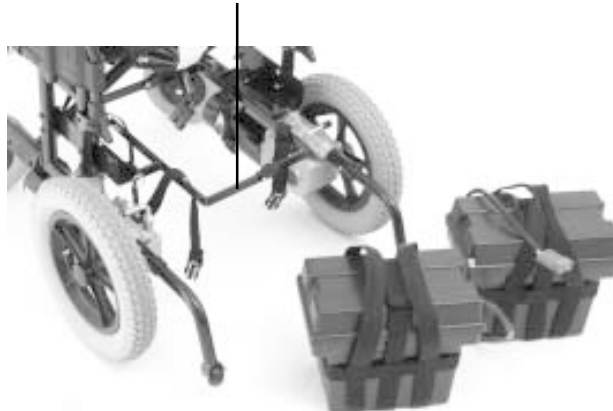

Figure 25. Pride LX - Battery Boxes Removed
6. Pull up the middle of the battery frame. See figure 25.